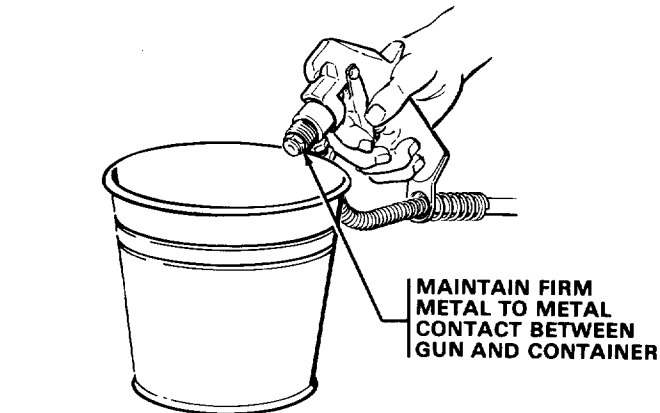

Fig 4
- f. Hold a metal part of the gun firmly against and aimed into a metal waste container. See Fig. 4. Squeeze the trigger and hold it open, turn the ON/OFF switch to ON, and slowly increase the pressure setting until the sprayer starts. Keep the gun triggered until all air is forced out of the system and the paint flows freely from the gun. Release the trigger and engage the safety.